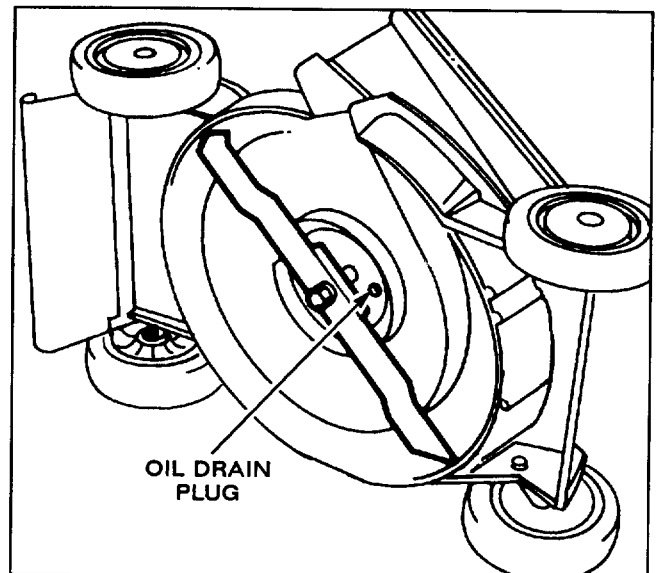

Figure 15
3. Tip mower on its left side. Remove drain plug from underside of mower using an adjustable wrench (Fig. 15). Place a drain pan under mower.